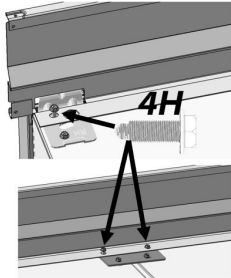
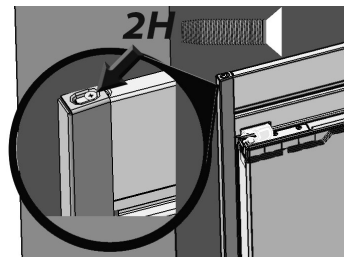

Fig. 21
Fig. 23
22. a. Remove the front outer hinge screws, common on both sides of the dual installation, as well as the two 4H screws that fasten the 1H Tie Bar (Fig. 21).
- c. Install the top trim by fastening four 4H screws along the base of the trim with a  $\frac{5}{16}$ " socket wrench (Fig. 21).
24. a. Place side trims in position by dropping them over the placement screw as seen in Fig. 21 and fitting over the top trim (Fig. 23).